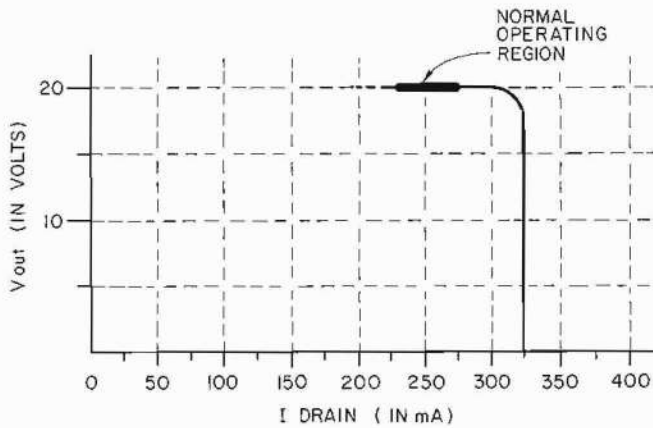

Figure 5-6. Typical Current Limiting Curve
c. Apply ungrounded end of the 50-ohm resistor to the +20 V output while monitoring the output voltage on the 410C meter voltage should drop indicating current limiting. See Figure 5-6 for graph of typical current limiting.